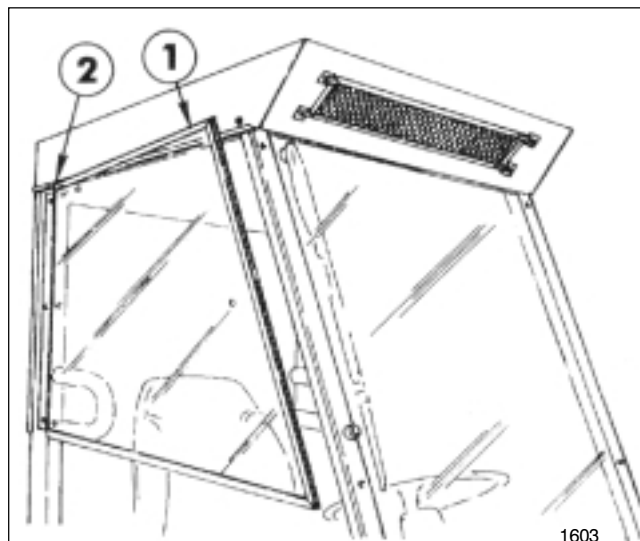

FIG. 8
26. Loosely mount the R.H. and L.H. Doors to the ROPS Bar with (6) 1/4" x 3/4" flange hd. bolts and flatwashers through the Door Hinges into the ROPS bar. See FIG. 8.